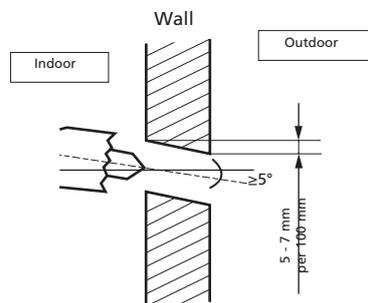

Figure 10
- Determine the positions of the holes according to the diagram detailed in Fig. 9. Drill one (1) hole (≥ 85 mm for S 3825 & S 3832 / ≥ 65 mm for S 3825 & S 3832) slanting slightly downwards to outdoor side, this will prevent water to come indoors (fig 10).